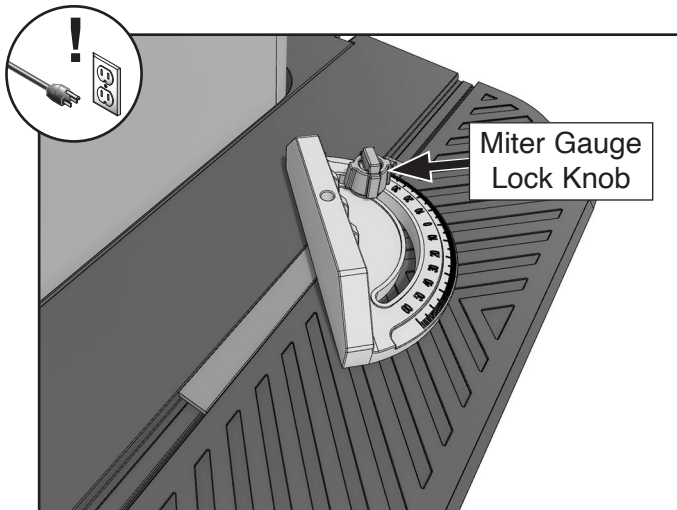

Figure 38. Location of miter gauge lock knob.
3. Loosen miter gauge lock knob shown in **Figure 38**.